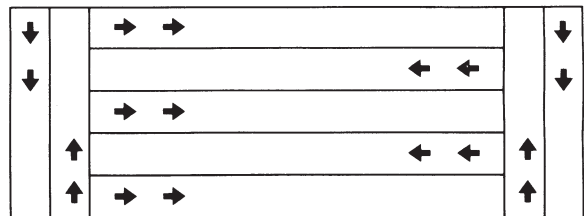

FIGURE 25
4. For easiest application, first apply material across both ends of the area. Two or three passes on each end are sufficient. Then apply material back and forth as shown. Use the end areas for turning around, shutting off the spreader as you enter the end areas and turning the spreader on again as you leave the end areas for your next pass. See figure 25.